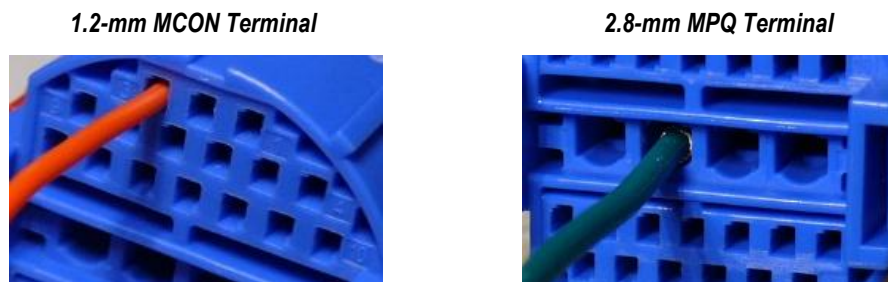

Figure 3
4. Grasp the wire of the terminal, and insert the terminal straight into the circuit cavity until it is fully inserted as shown in Figure 3. If there is significant resistance during insertion, remove the terminal and verify proper orientation.